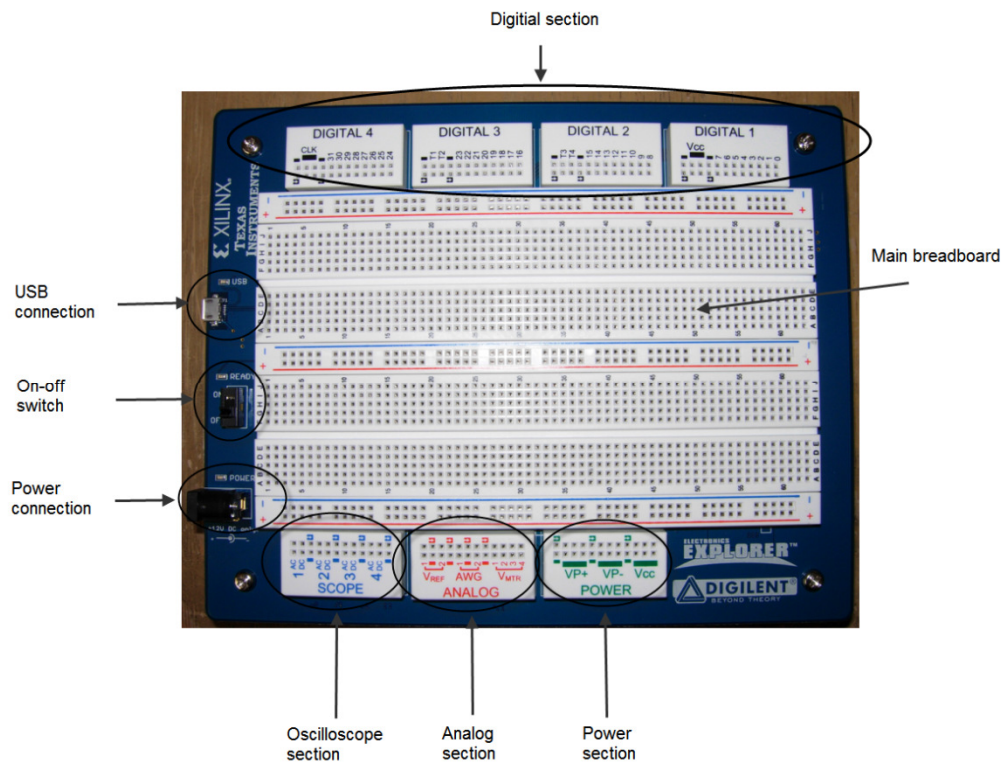
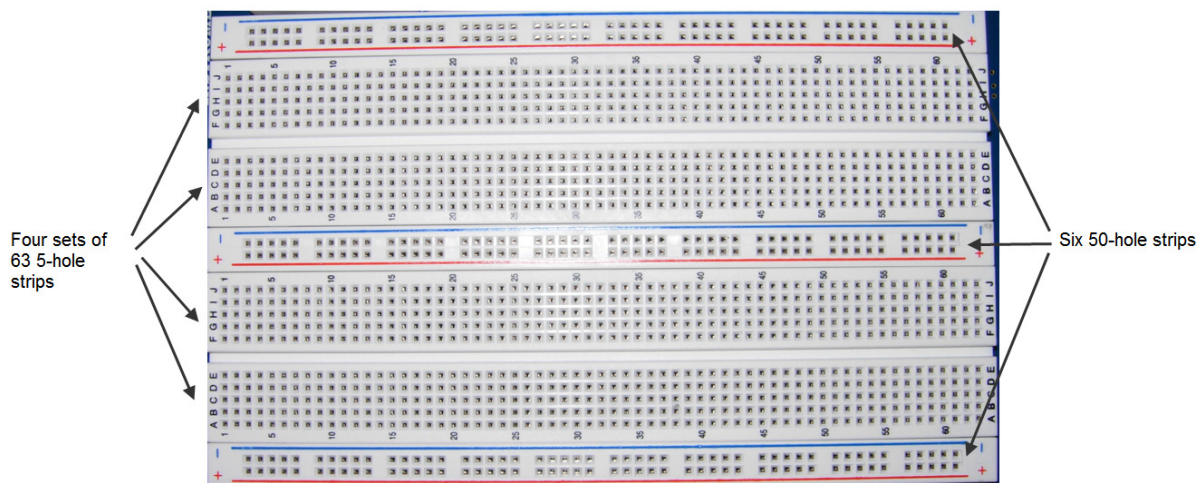
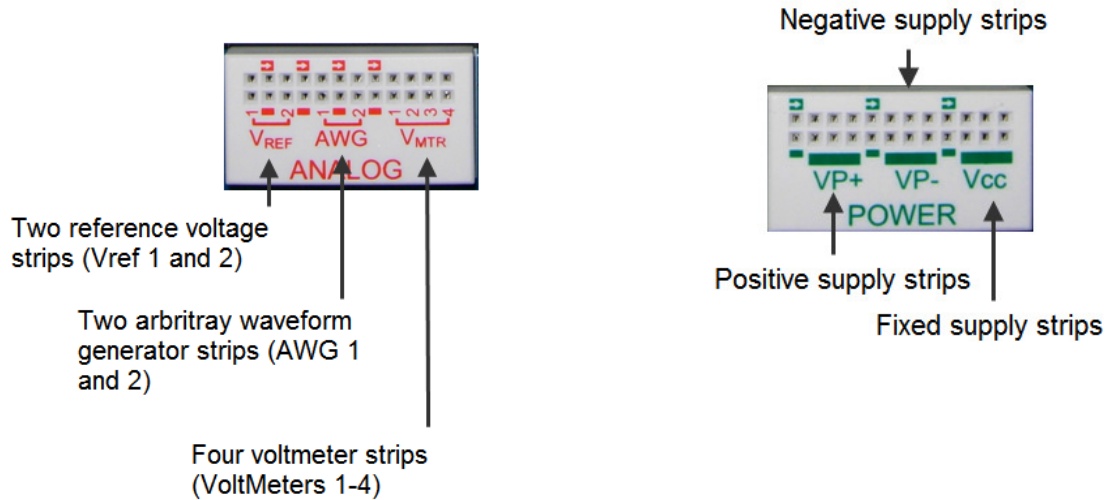

Figure 1. EE board top view.
Figure 3. EE board solderless breadboard.
Figure 5. Sections of the EE board used by the Power Supplies and Voltmeters instrument.
A top view of the Digilent EE board is shown in Figure 1. Primary sections of the board are as follows:
- b. **Providing Power to the EE Board:** Plug in the AC adapter that came with your EE Board and connect it to the EE board power connection (see Figure 1).
The solderless breadboard provided as part of the EE board is the large white plastic component with rows and columns of holes occupying most of the top of the EE board. The breadboard is indicated in Figure 1, Figure 3 provides a more detailed view of the breadboard. The breadboard provides a working space where temporary circuits can easily be built. The holes in the breadboard provide an easy way to connect electrical components by pushing the leads of the components into the breadboard holes.
The EE board's breadboard has four rows of five holes that are electrically connected into a single circuit *node* – the holes always have the same voltage. A central groove or channel generally separates two banks of these holes. The overall situation is illustrated in Figure 3. The holes on either side of this channel are not electrically connected.
In addition to the sets of five connected holes, the breadboard provides six 50 hole-strips. All fifty holes in each of these strips are electrically connected. These strips are oriented horizontally in Figure 3; each fifty-hole strip has either a red or blue line that runs next to it. The fifty-hole strips provide locations where large numbers of connections can be made to a single node. This is useful, for example, when providing power supplies or grounds to multiple locations in a circuit.
Physical access to the power supplies and voltmeters controlled by this window are provided in the **Analog** and **Power** sections of the breadboard, as indicated in Figure 1. Close-up views of these sections are shown in Figure 5 below. The power levels which can be controlled by the window are the positive and negative adjustable power supplies (**VP+** and **VP-**), the fixed, bi-level, power supply (**VCC**), and the two low-power reference voltages (**VREF1** and **VREF2**). The four voltage meters (**VMTR1** through **VMTR4**) are also controlled with the power supplies and voltmeters window.